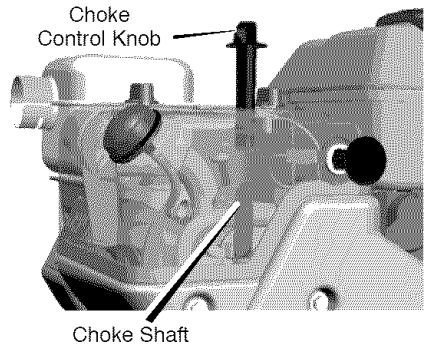
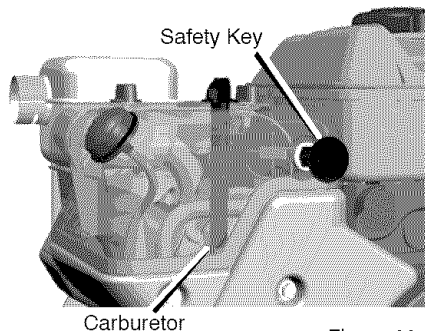

Figure 28
Figure 29
8. Connect the choke control knob with the choke shaft on the carburetor (see Figure 28 and Figure 29). Make sure the choke control knob is properly installed. If the choke control knob is not installed correctly, the choke will not operate.